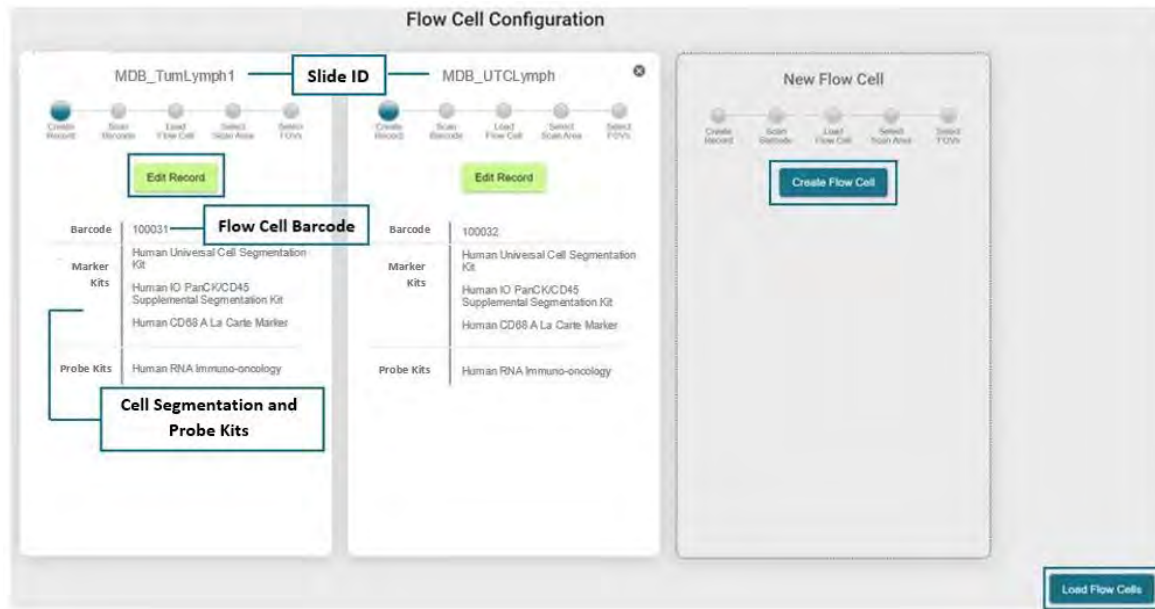

Figure 20: Flow Cell Configuration Screen
8. Once the flow cell record has been saved, the user is directed back to the **Flow Cell Configuration Screen** (see Figure 20).